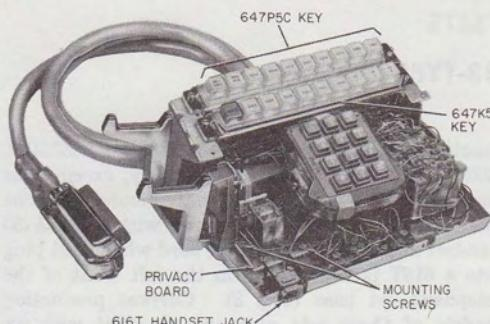

Fig. 2—2833BM Telephone Set Base
functionally equivalent to the 833BM, 2833BM, 833CM, and 2833CM sets, respectively, except that they have been adapted for wall mounting. The modular sets will all be equipped with a G15A-50 handset and H4DU-50 handset cord which will plug into a 616T jack mounted on the left front of the telephone set base (Fig. 2). Current production models of these sets also are equipped with an improved line switch and an automatic button restoral (ABR) feature. Some early production BM and CM sets were not so equipped.
2.02 The 833B (MD) or 833BM, DM and 2833B (MD) or 2833BM, DM telephone sets are equipped with a 647K5 key in the lower key position consisting of a hold button, six line buttons, and three intercom buttons. A 647P5C key is located in the upper key position consisting of a RECALL button, a Privacy Release (PRIV RLS) button, and eight line buttons. The privacy circuit board is factory installed and wired (Fig. 2).
- (1) Mount privacy circuit board on the two standoffs located at the left front of the telephone set base (Fig. 2) using mounting screws furnished with the telephone set.
- (2) Refer to Table C for connections.
- (3) To test privacy circuit refer to 3.06.